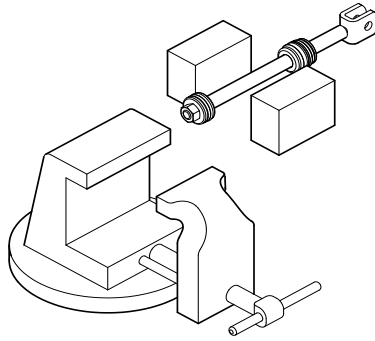

Figure 5-3, Cylinder Shaft
6. Clamp the rod assembly in a soft jawed vise on the wrench flats, not on the rod surface. If the rod does not have wrench flats use two pieces of wood on both sides of the rod to prevent scarring. (Figure 5-3)
7. Does not have wrench flats use two pieces of wood on both sides of the rod to prevent scarring. (Figure 5-3)